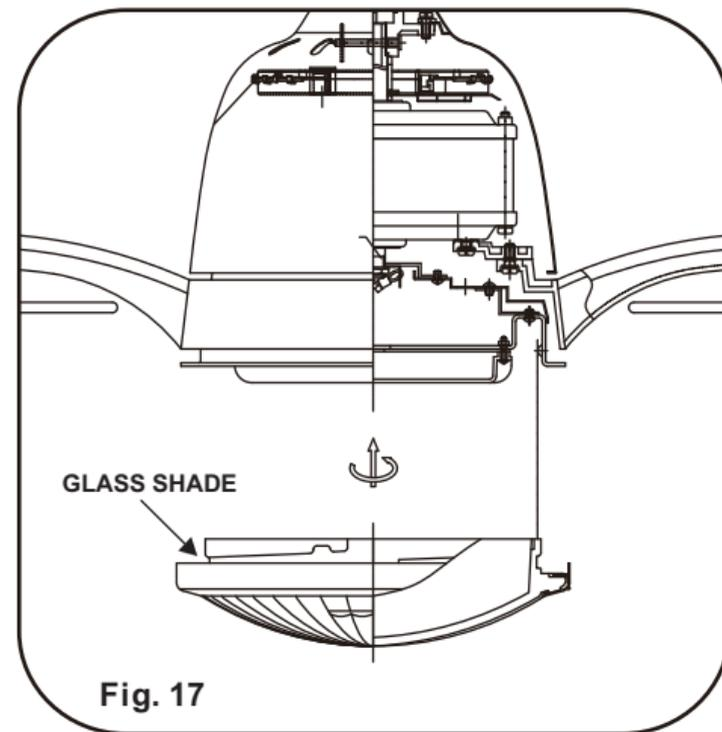

**Fig. 16**
2. While holding the LED light kit under the fan motor assembly, make the 2-pin wire connections: (Fig. 16)